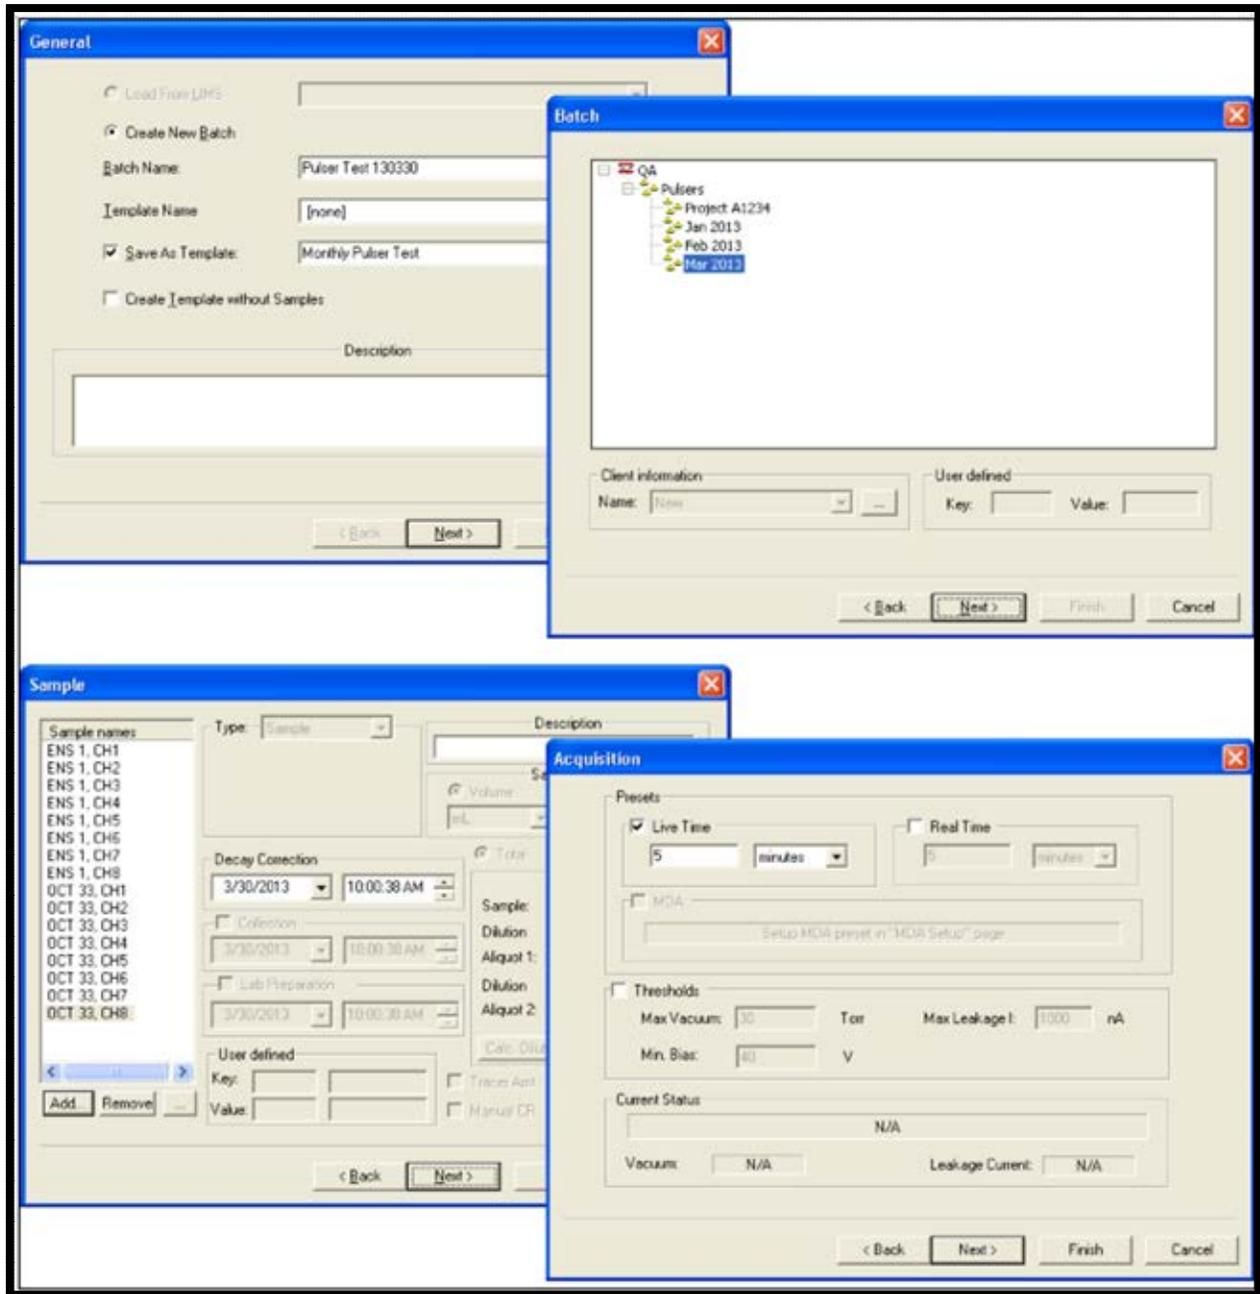

Figure 102. QA Wizard with Samples for Each Alpha Chamber to be Tested
- 3) Click **Finish** to open the Detector Assignment Worksheet. If **Auto-assign** was not used, refer to the instructions in Section 11.2 to assign the alpha chamber(s) to be tested, then click **Start Now** to begin the test. Figure 102 shows the first 4 QA Wizard screens (the Report screen is not shown) and Figure 103 the corresponding Detector Assignment Worksheet.